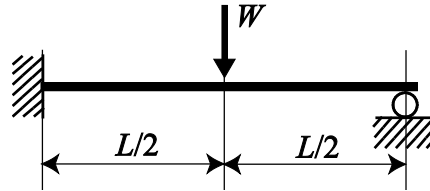

Figure 4
4. The uniform elastic beam shown in Figure 4 is stress-free when $W = 0$, and just in contact with the support at the right-hand end.